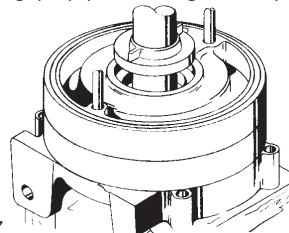

Figure 4-7
- Slide an interstage bushing onto the shaft. The smooth wearing face should be installed against the ring (#9).(refer to figure 4-7)